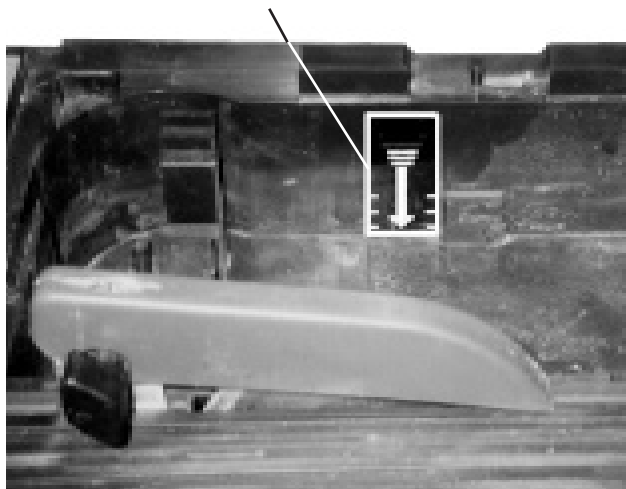

FIGURE 4
2. Fill the Body (19) with water. Be sure to use cold, clean water.
3. **WARNING! Make sure water level is high enough to cover lower edge of Tile Saw Blade (sold separately, not included), but *not* above max water level as indicated by arrow. The Blade's edge must be submerged in water at all times. See Figure 4, below.**
4. Plug the Power Cord (11) into a grounded, 120 Volt electrical outlet.
5. Turn the Power Switch (4) to its "ON" position, and allow the Blade to spin up to full speed.
8. Place the workpiece to be cut against the Rip Fence (7), and then *slowly* feed the workpiece into the spinning Blade.
9. When finished making the cut, turn the Power Switch (4) to its "OFF" position and unplug the Power Cord (11) from its electrical outlet.